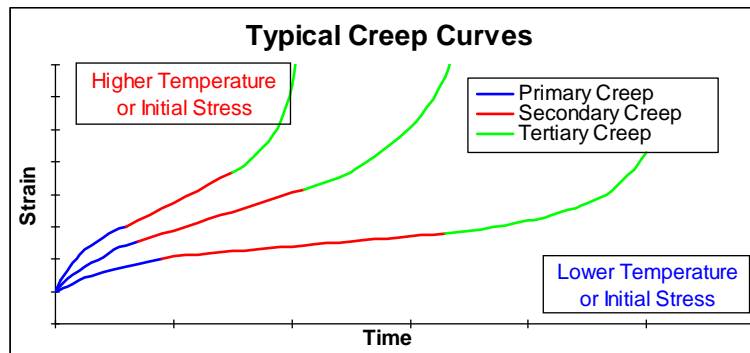

Figure 2. Typical Creep Curves
**Creep** curves display similar tendencies, although they are more complex than stress relaxation curves. Creep curves can best be plotted as strain versus time. Creep is divided into three stages (see Figure 2).